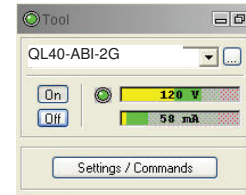

Figure 4-2 Tool panel
2. Select the relevant QL40 ABI tool from the drop down list (Figure 4-2) in the software's **Tool** panel (if your tool is not listed check that your tool configurations file is stored in the designated folder on your computer).
4. On the **Tool** panel (Figure 4-2) click the **Settings / Commands** button to configure your tool for open hole/cased hole logging (see chapter 4.3 and 4.4 for details).